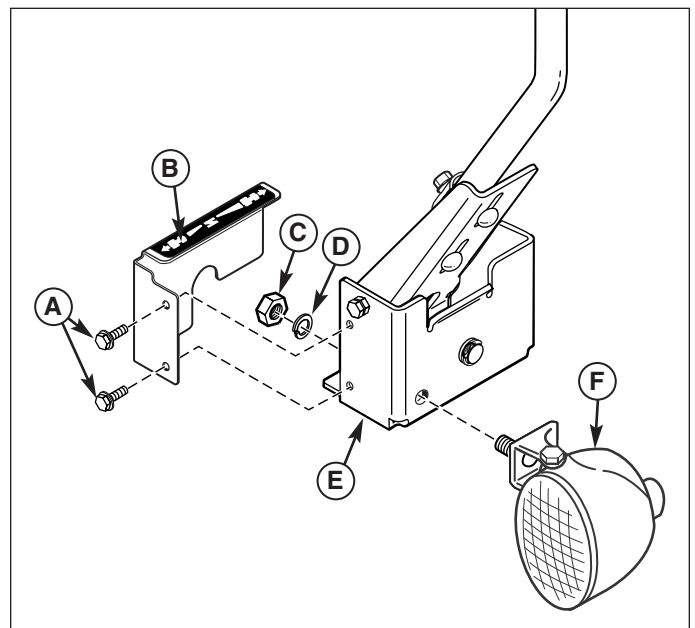

Figure 2. Light Installation
1. Remove 1/4-20 x 5/8 capscrews (A, Figure 2) and cover (B).
2. Install light assembly (F) and secure with 5/16 lockwasher (D) and 5/16-18 nut (C).
3. Reinstall cover (B) and secure with 1/4-20 capscrews (A).